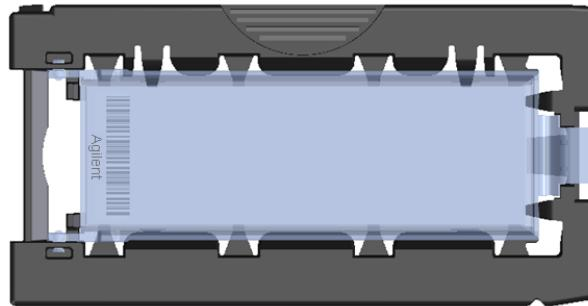

Figure 9 Slide holder – closed with slide
- g Close the plastic slide cover, pushing on the tab end until you hear it "click". See Figure 9.